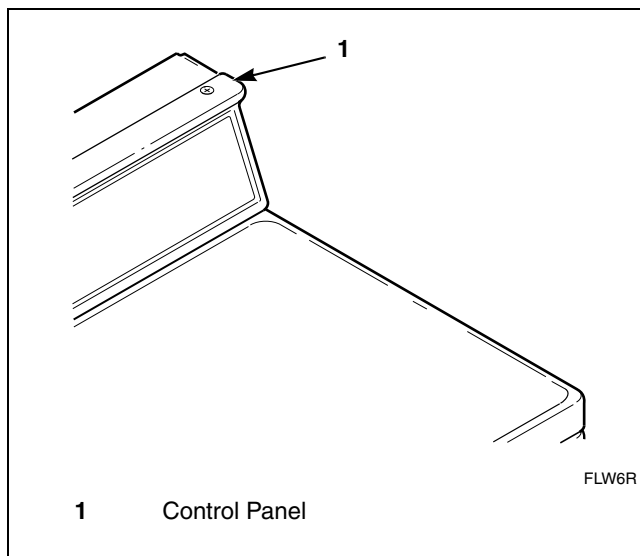

Figure 17
1. Open control panel. Refer to Figure 17.